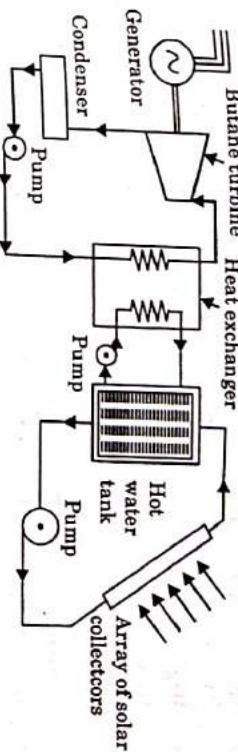

Fig. 2.23.1. Low temperature solar power plant.
1. A low temperature solar power plant uses flat-plate collector arrays shown in Fig. 2.23.1.